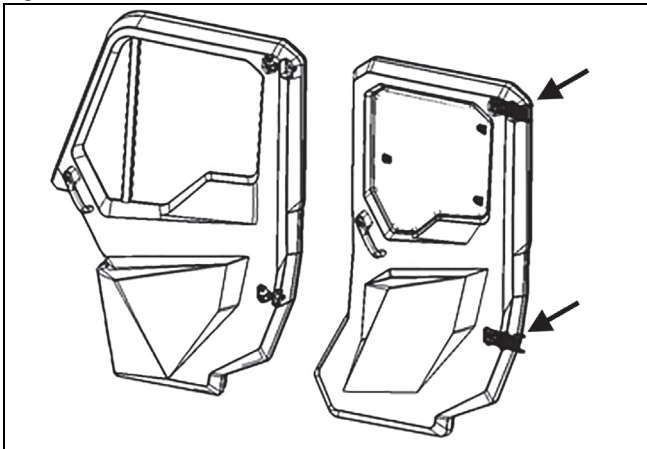

Fig. 15
16. Remove the cap screws, washers, and spacers securing the upper and lower hinges from the front and rear doors; then install the front door hinges onto the rear door. Tighten the hardware securely. See Fig. 15 and 16.